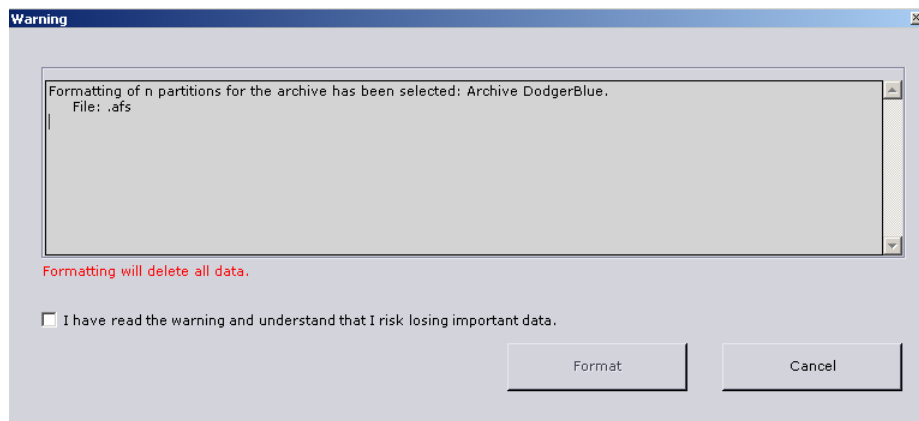

Fig. 6.6—5 Warning about partition formatting
6. A dialog box will appear with a warning that the desired partitions (files and/or volumes) will be formatted (Fig. 6.6—5).
7. Read the list of partitions which are to be formatted. If it is correct, select the **I have read this warning and understand the risk of losing important data** check box and click the **Format** button (see Fig. 6.6—5). Otherwise click the **Cancel** button to return to archive settings.